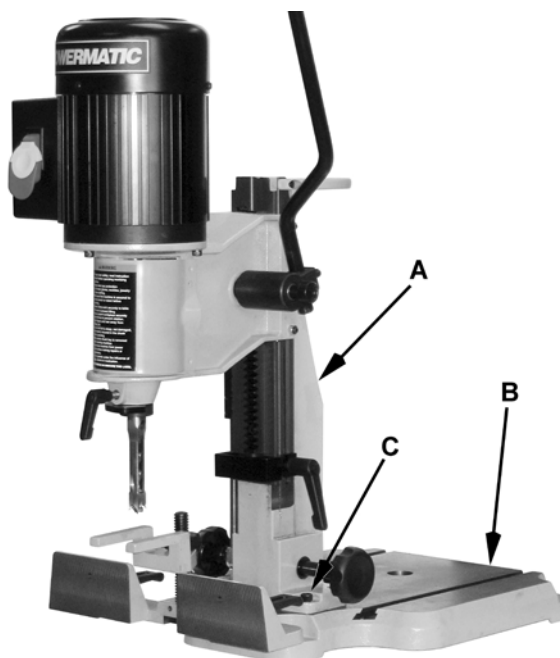

Figure 15
Referring to Figure 15:
1. Using a 4mm hex wrench, remove four screws, lock washers and flat washers (C) **Note:** only one screw is visible in Figure 15.
2. Rotate the *column* (A) 180°.